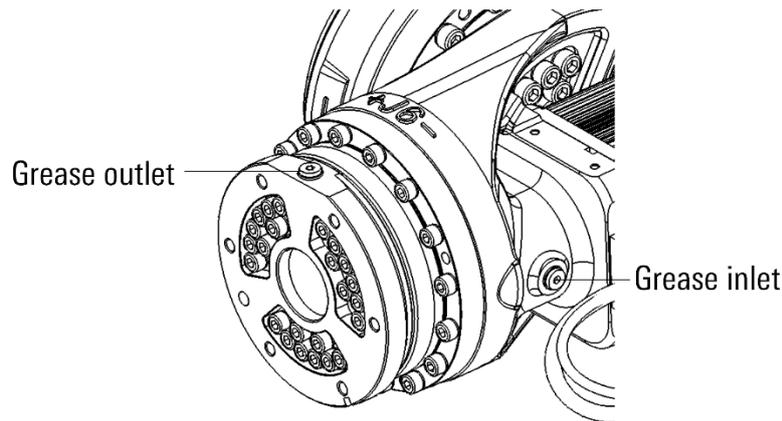

Figure 12-13 Replace the J6 axis reducer lubricating grease
- Step4. Remove the M10x1 plug from the grease outlet, as shown in Figure 12-13.